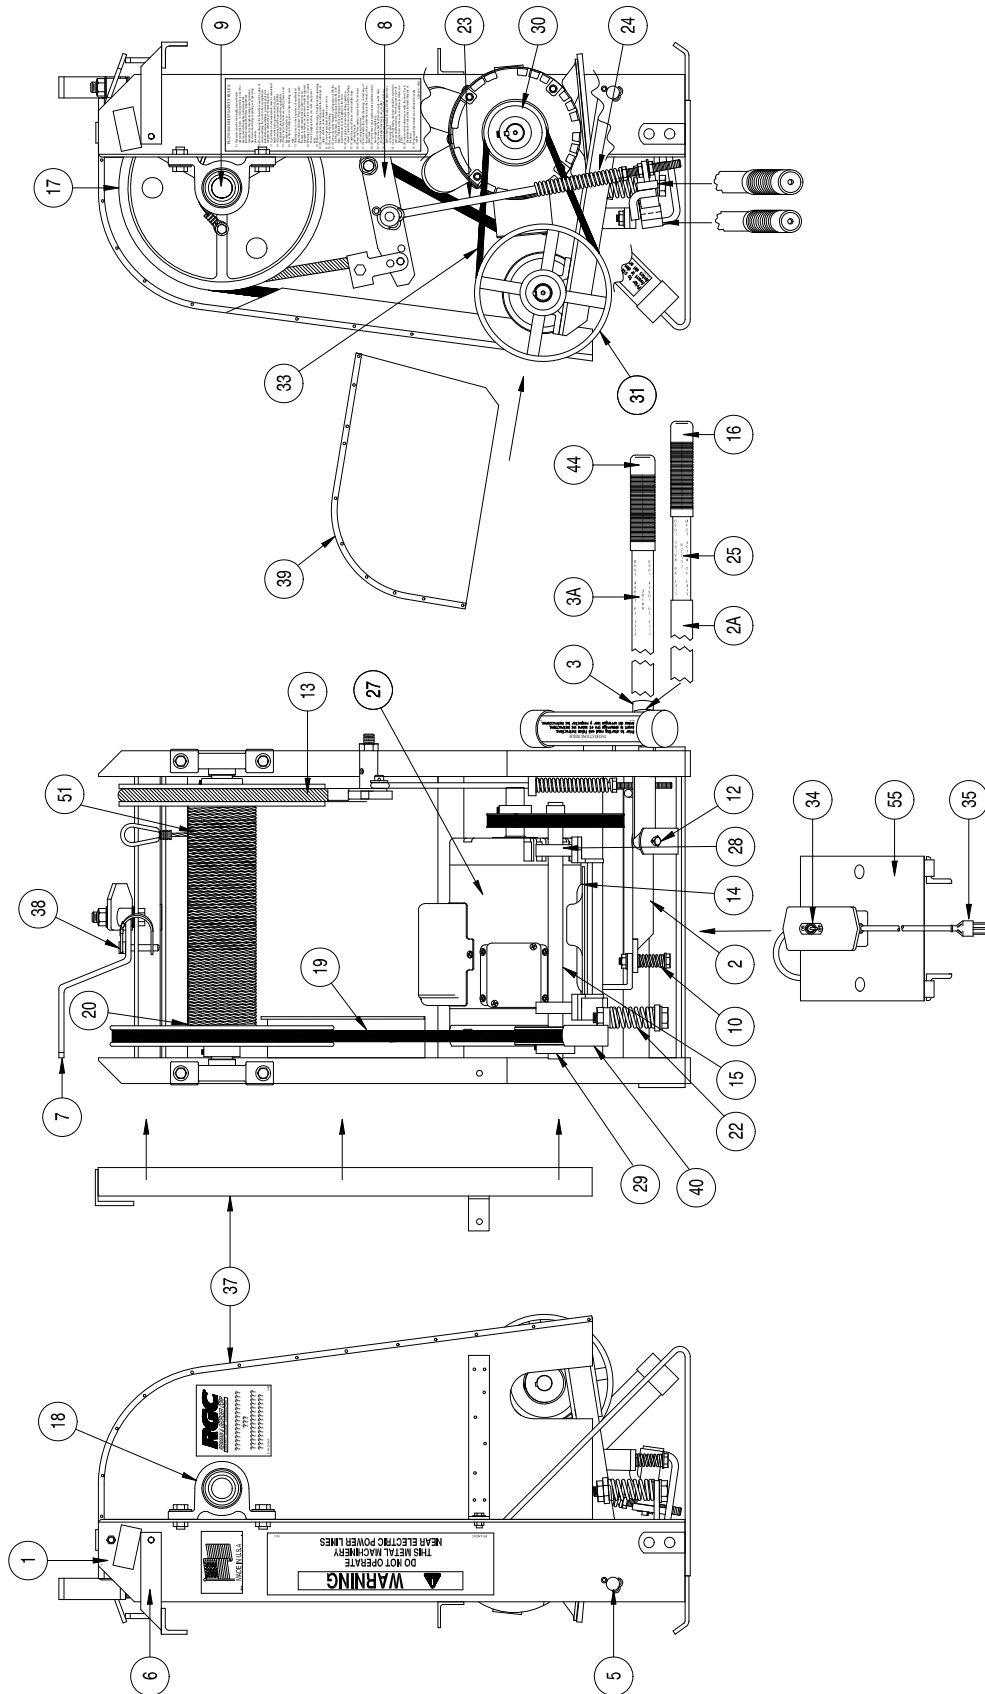

Figure 8-1.
4. When properly adjusted, the brake will release before the #10 clutch spring is entirely compressed. Gap "A" is widened or narrowed by screwing or unscrewing, respectively, nuts "B" and "C". Make this adjustment carefully. If there is no gap "A", the brake will release before the clutch belt is tightened. This will cause a sudden jerking before the clutch belt is tightened, resulting in an overload on the hoist, wire rope, and track. The clutch can be engaged sooner to help avoid this overloading by tightening the top nut on the #10 clutch spring shown in Figure 8-1. The clutch spring is preset at the factory to a compressed height of $1 \frac{3}{4}$ inches.
The main bearings (shown as #18 in Figure 8-1) are lubricated for life and need no attention. Oil all pivots and linkage joints occasionally. The bearings shown as #28 on this same figure are bronze with graphite inserts. Reservoirs built into the bearings hold a good supply of oil. Inspect frequently and keep filled with light oil as required.
Refer to Figure 8-1.